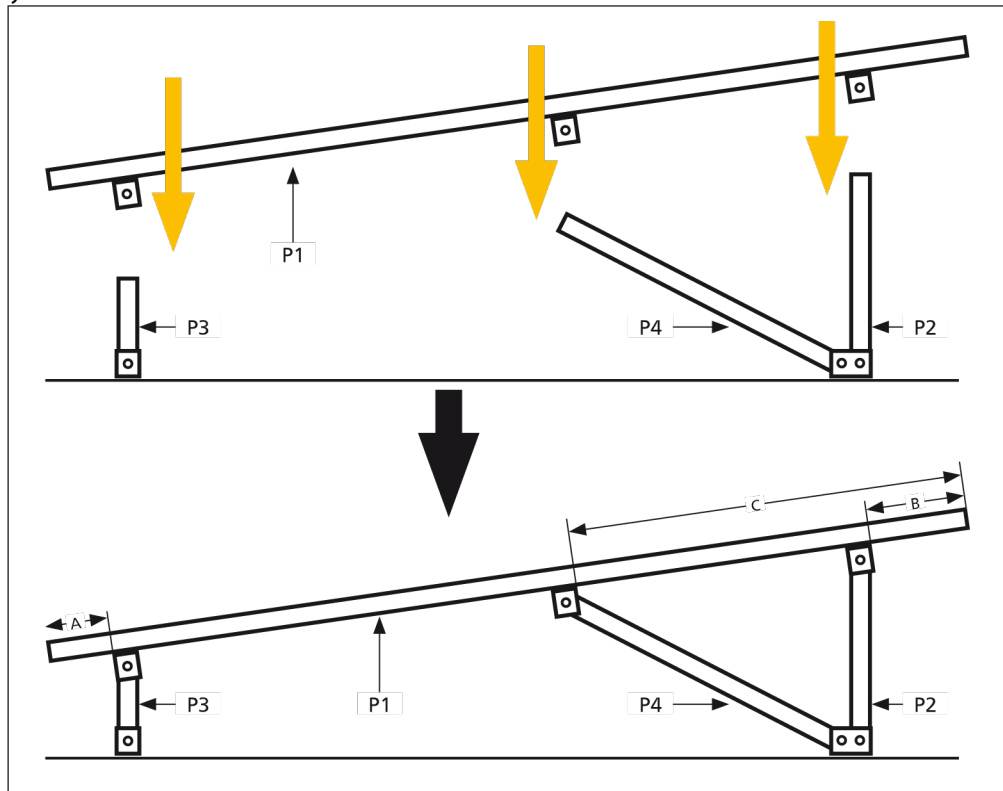

Figure 24
- Fit the P1 type formed sections to the P4, P2 and P3 formed sections as shown in figure 24 below.